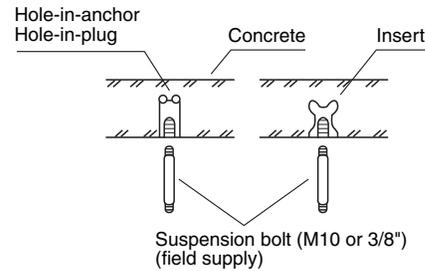

**Fig. 3-131**
- (1) Place the full-scale diagram (supplied) on the ceiling at the spot where you want to install the indoor unit. Use a pencil to mark the drill holes. (Fig. 3-131).